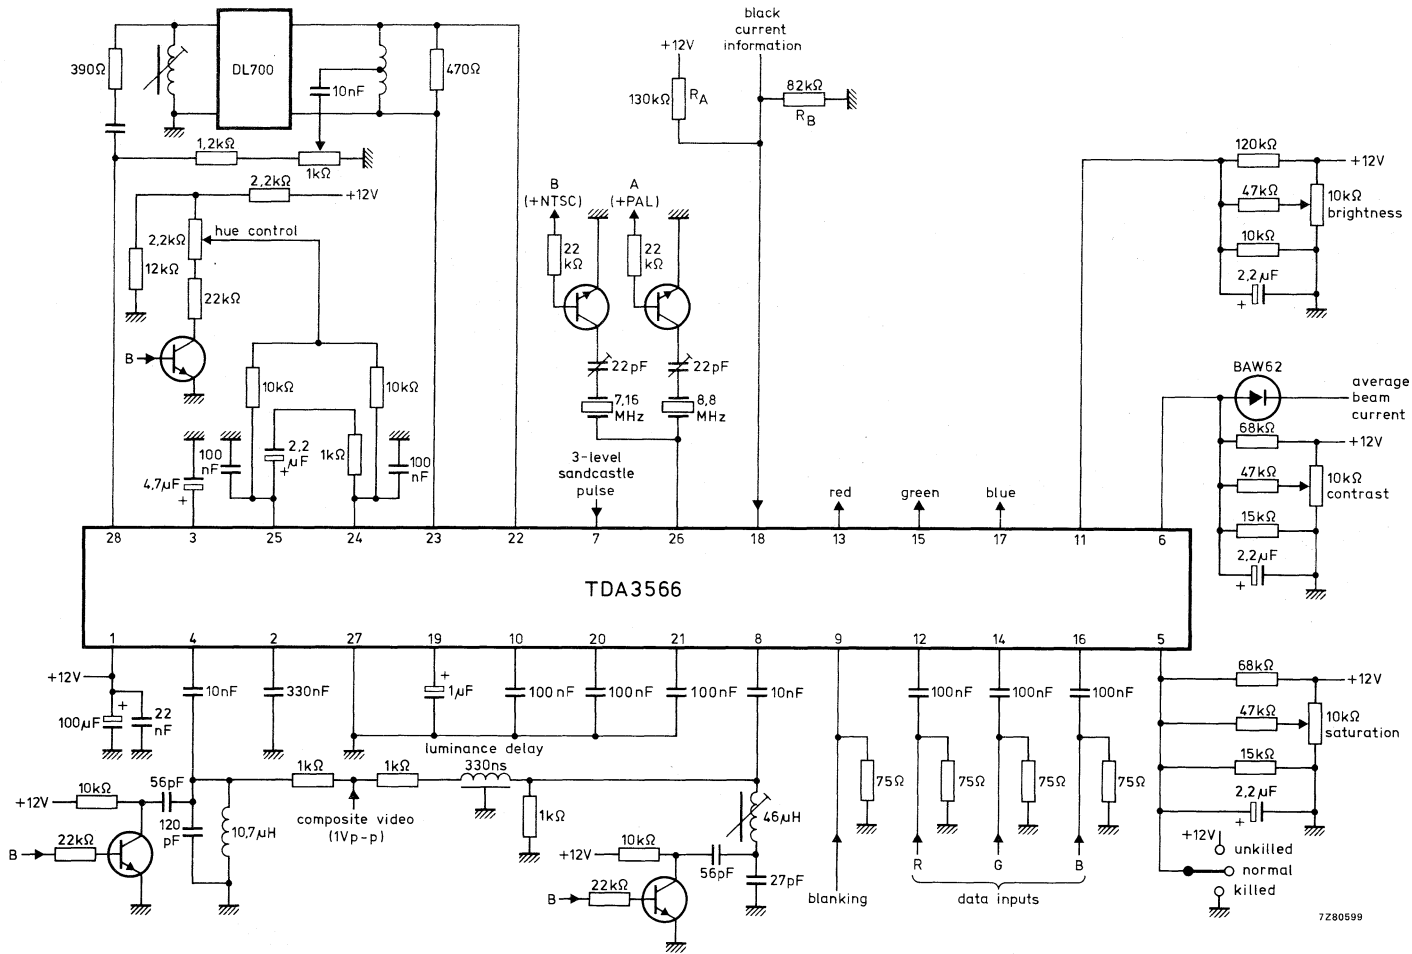

Fig. 8 Application diagram showing the TDA3566 for a PAL/NTSC decoder.
12. The voltage at pins 24 and 25 can be changed by connecting the load resistors ($10\ \text{k}\Omega$ in this application) to the slider bar of the hue control potentiometer (see Fig. 8). When the transistor is switched on, the voltage at pins 24 and 25 is reduced below 9 V, and the circuit is switched to NTSC mode. The width of the burst gate is assumed to be $4\ \mu\text{s}$ typical.